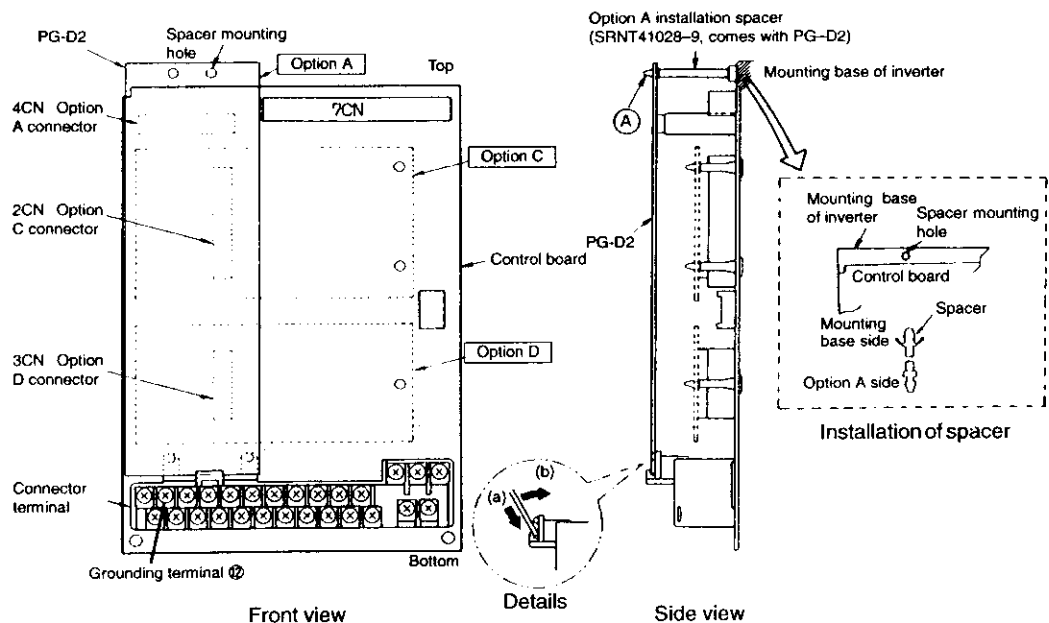

Fig. 3 Installation of PG speed control card PG-D2
2 Installing to Inverter (See Fig. 3)
- ① Turn OFF the main power and wait for the time specified on the cover of the inverter. Remove the cover and verify that the CHARGE indicator lamp is OFF.
- ② Insert the attached spacer (SRNT41028-9) into the spacer mounting hole in the mounting base of the inverter. (See Fig. 3.)